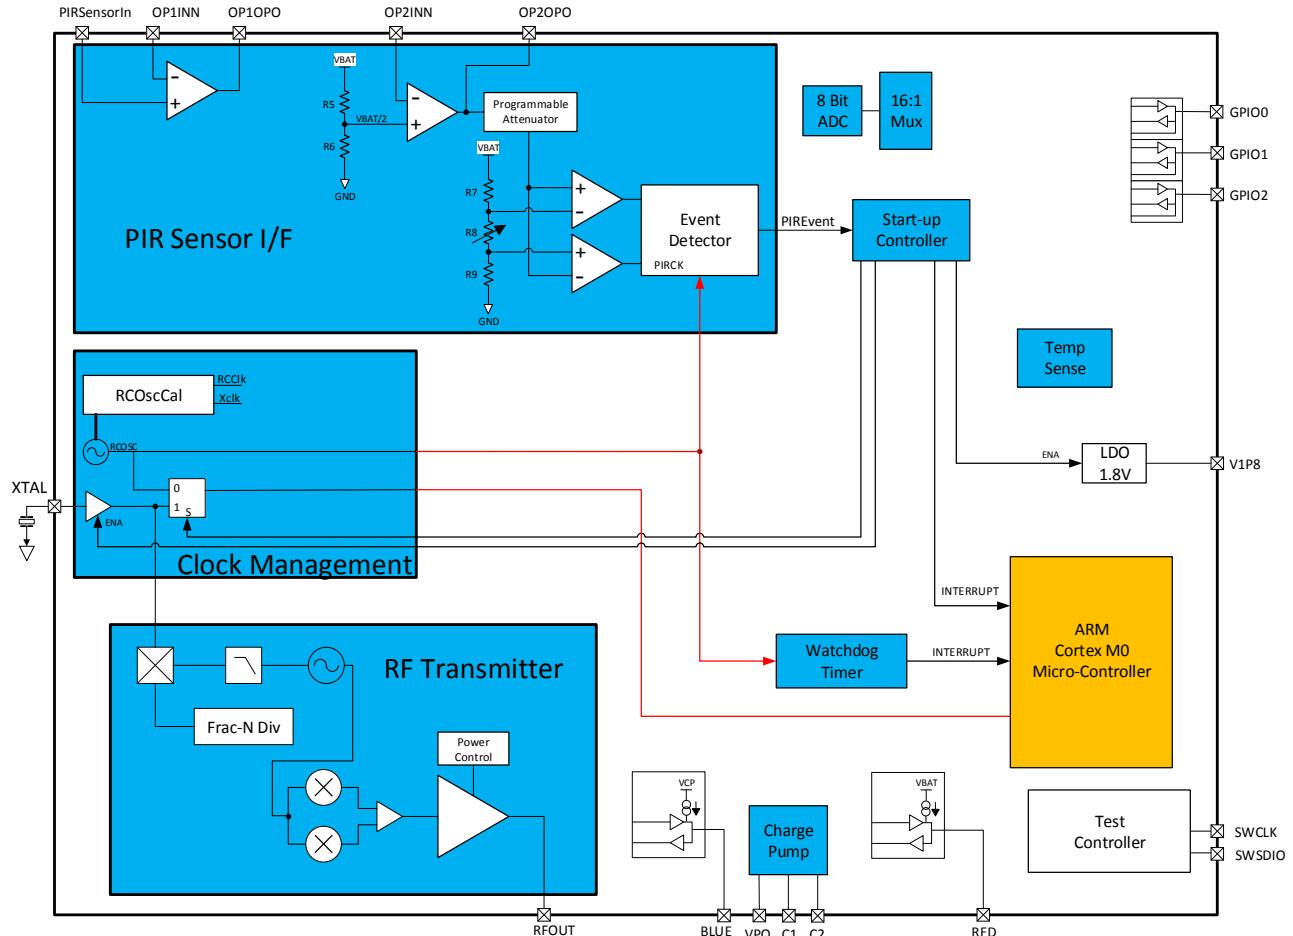

Figure 1 Heimdall Slave block diagram
- Figure 1 shows the device block diagram. For more information, please check the Heimdall Slave Datasheet [1]